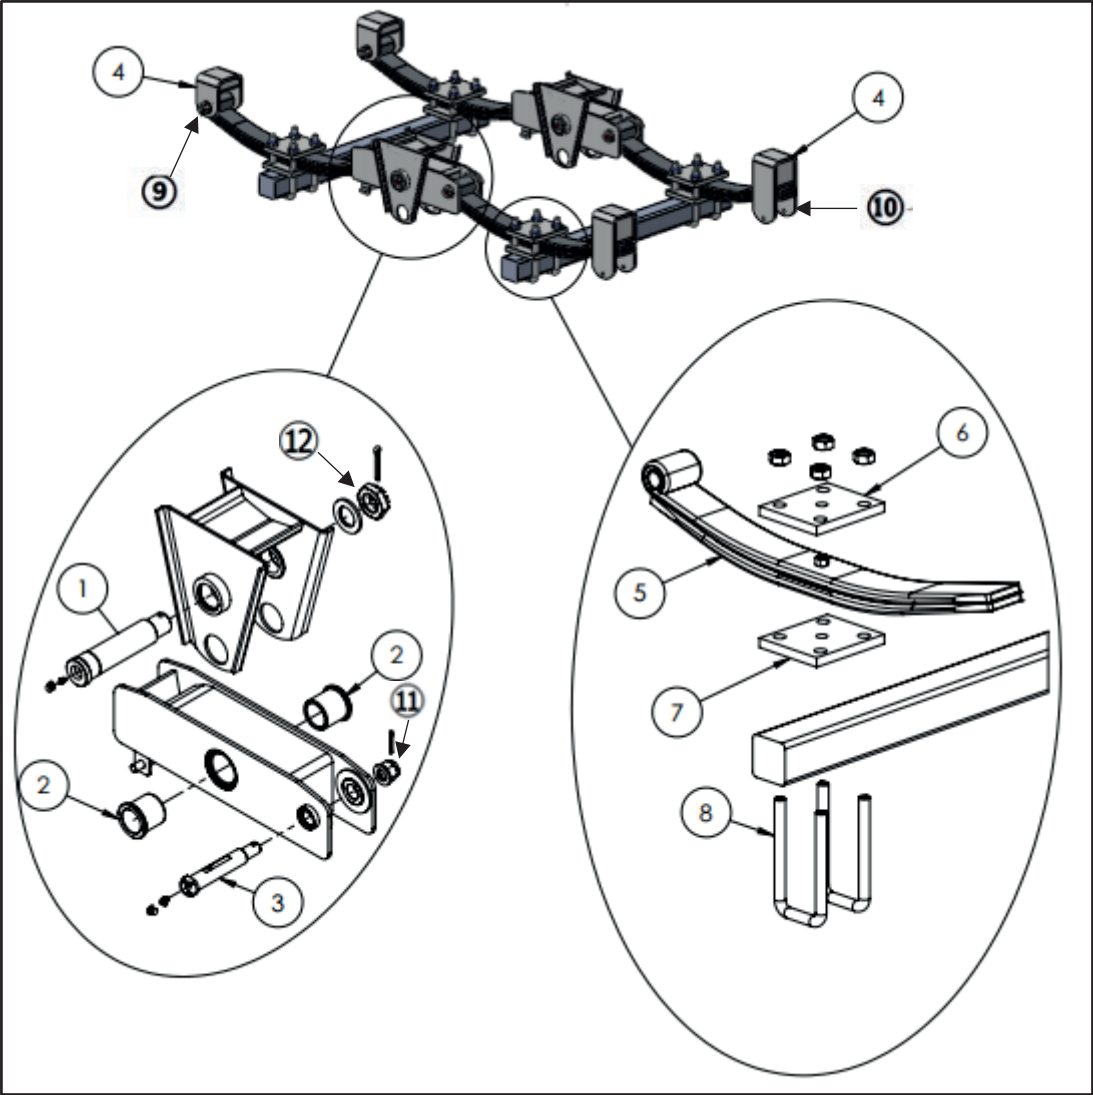

Figure 23 Exploded View of Slipper & Eye Suspension
3. Ensure tightness of nuts identified as No.9, 10, 11 and 12 in Figure 23.
Yearly maintenance checks of the slipper and eye type suspension is also required. The following procedure should be followed to achieve this, please refer to Figure 23 in conjunction with this procedure.